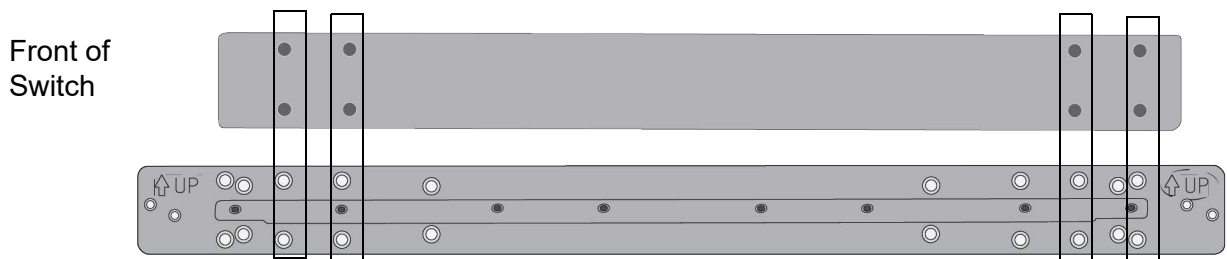

Figure 19. Inner Rail Screw Holes for the DC2552XS Switch
**DC2552XS Switch** Use eight screws on each side. Refer to Figure 19.